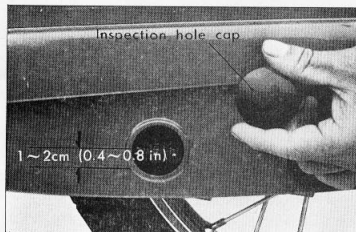

Figure 6-32. Inspecting drive chain tension
- a. Remove the inspection cover on the chain case and check to see if the total vertical slack of the chain is between 1~2cm (0.40~0.78 in). (Fig. 6-32)